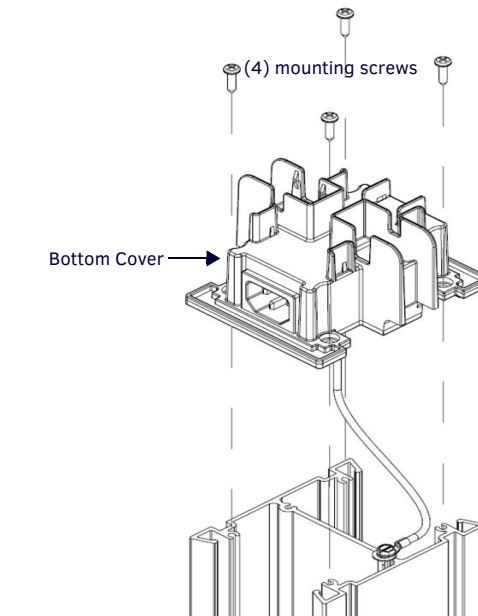

FIG. 6 Installing the Bottom Cover
- Remove the 4 Mounting Screws that secure the Bottom Cover to the aluminum frame, and remove the bottom cover. (see FIG. 6)